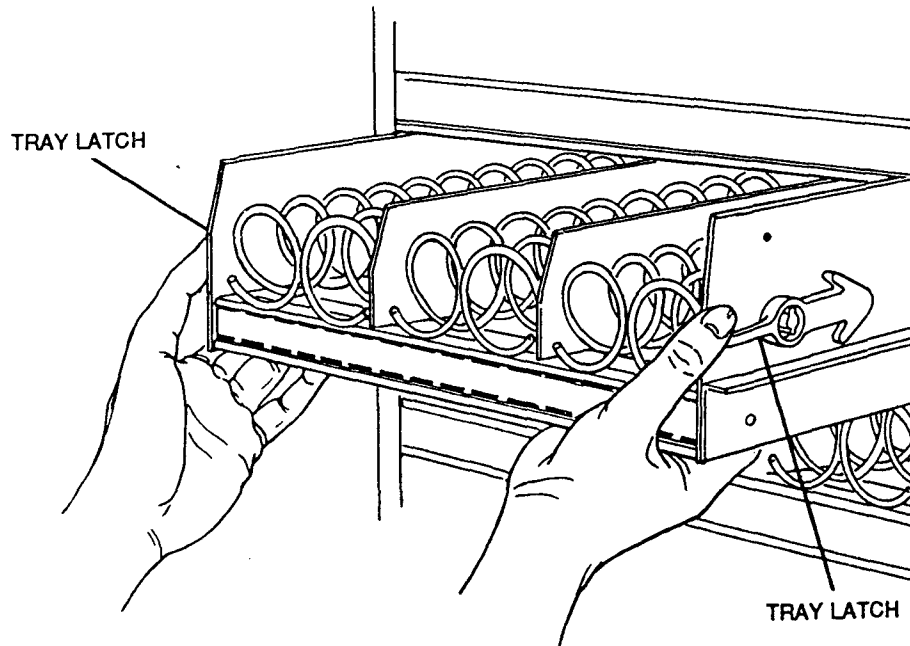

Figure FD-3a
- * Place both hands on the Food Module tray as shown in Figure FD-3a.